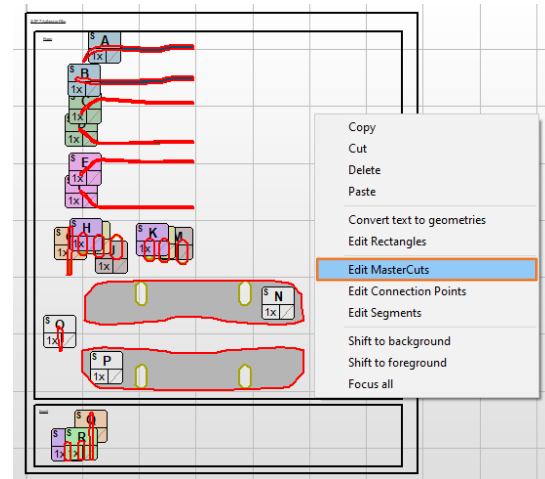

Figure 271
66. Now after we set the MasterCut IDs and added the correct colors we can proceed with assigning the right steps to our MasterCuts. Therefore first select all MasterCuts from the Adhesive Material. They are assigned to step 7 now. Right-click somewhere in the Drawing Area and further select **[Edit MasterCuts]** (Figure 271).